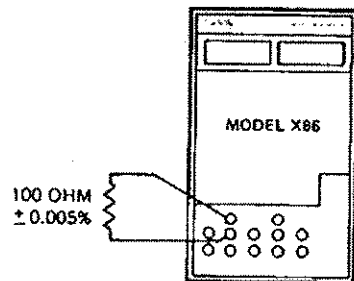

Figure 6-3: Ohms Input Calibration
a) Connect the Model X86 and the precision 100-ohm resistor as shown in Figure 6-3. Connect the resistor directly to the OHM binding posts to eliminate errors caused by test lead wire.